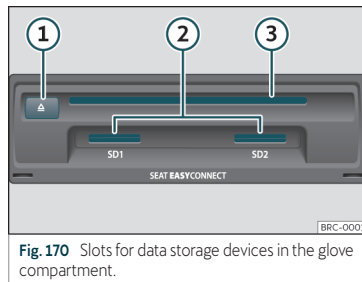

Fig. 170 Slots for data storage devices in the glove compartment.
- Push the CD or DVD into the DVD slot >>> Fig. 170 ③ to the point where it is drawn in automatically.
Insert the compatible memory card, beveled edge first and with the label face up (contacts face down), into slot >>> **Fig. 170** ②, until properly inserted.